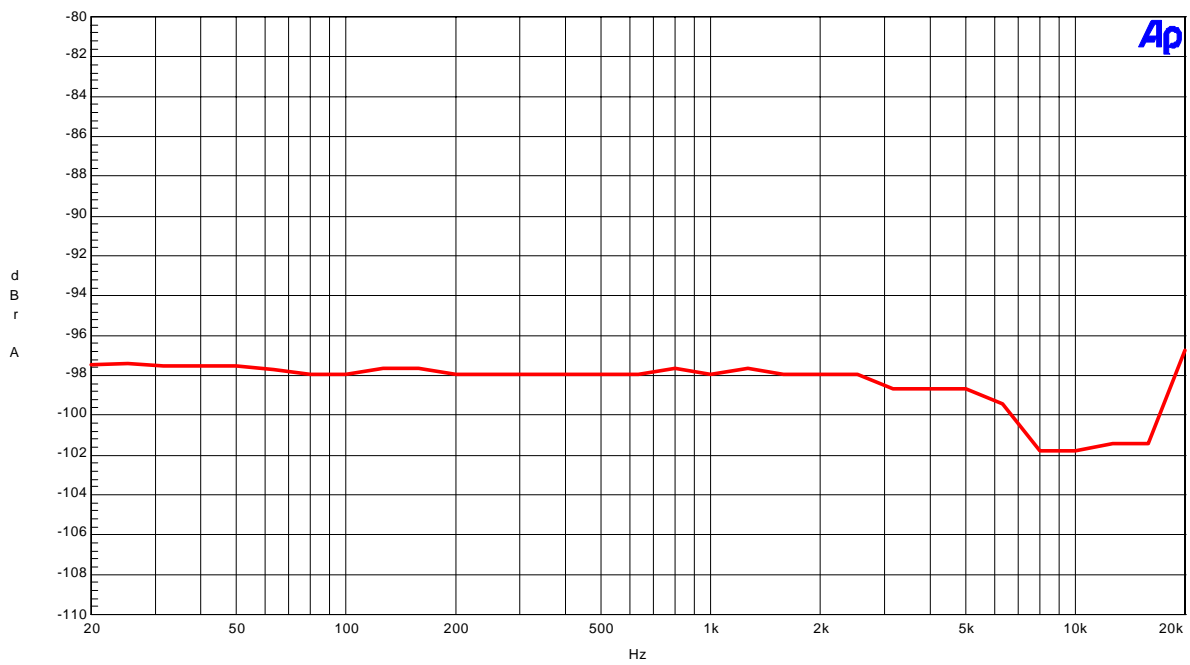

Figure 11. THD+N vs fin (Input level=0dBFS)
- Figure 11. THD+N vs fin (Input level=0dBFS)